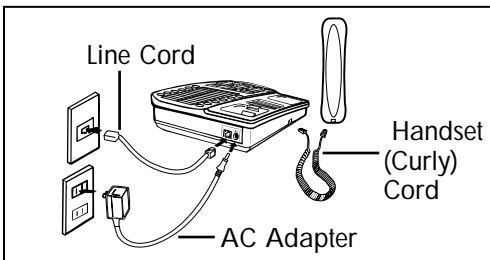

Figure 5 - Connecting the Components
1. Connect one end of the telephone line cord to the "Line" jack on the back of the XL-50 and the other end to the phone outlet on your wall. Connect the handset cord to the telephone as shown in Figure 5.
2. Plug the AC adapter into an electric outlet and into the AC jack on the telephone as shown in Figure 5.